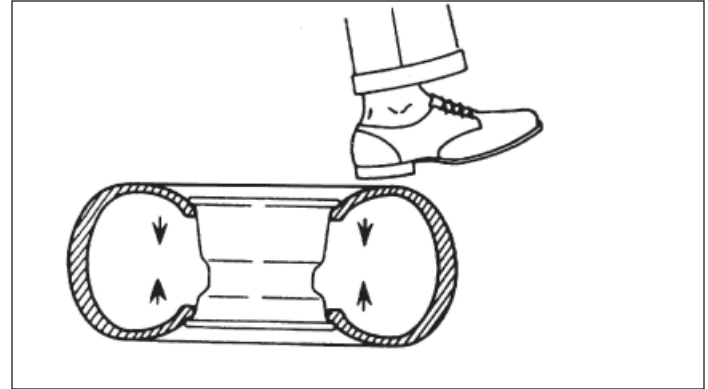

Figure 6-3. Breaking Tire Bead
3. If tire machine is unavailable, lay wheel assembly on ground (valve stem side up) and break the tire bead from the wheel (Figure 6-3).